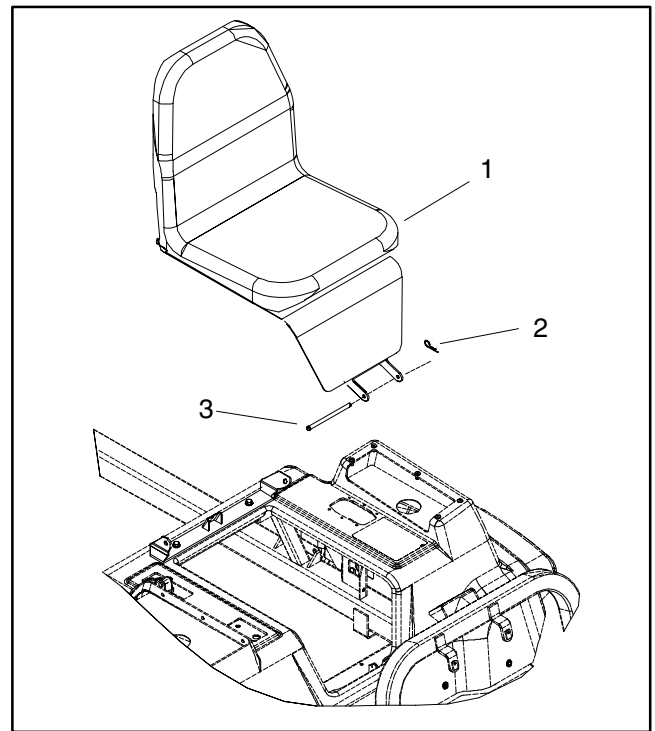

Figure 19
3. Remove seat assembly by tilting seat forward and removing hitch pin and clevis pin (Fig. 19).
6. Remove flange head screw (item 6) that secures right hand inner panel (item 16) to L bracket (item 7).
7. Remove eight (8) flange head screws that fasten seat base to machine. During screw removal, locate and remove washers and spacers. The two (2) screws directly behind the front wheels are secured with flange nuts (item 15).